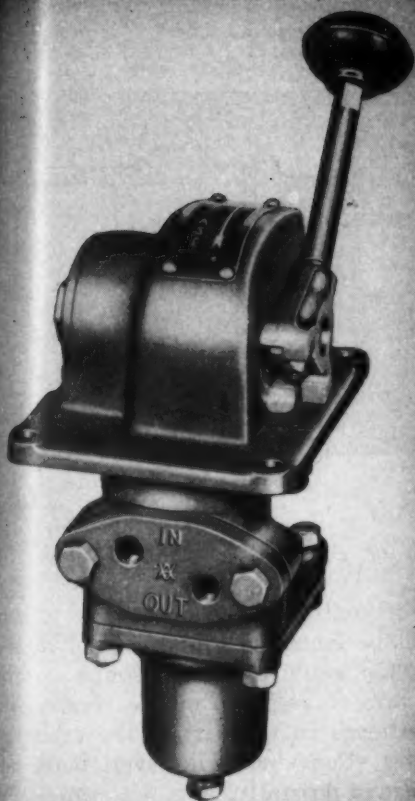

Fig. 20—Left—External and diagrammatic view of a pressure-control valve. Pressure varies according to the handle setting
Another entirely different functional principle from the on-and-off valve is offered by the pressure-control valve, *Fig. 20*. The handle position on this valve determines the pressure output. Each handle position corresponds to a particular delivery pressure so that, for instance, the quadrant of handle movement might be calibrated from 0 to 100 psi. For any particular handle position the valve will not only deliver the corresponding pressure for that position but it will deliver additional air or exhaust air from the line so as to maintain that pressure so long as the handle remains in the same location.
6. The uniform release feature is a true pressure control type reducing valve, in the sense that it can vent exhaust pressures as well as hold pressure up to a desired value. It provides a constant low return force on the cylinder pistons, in lieu of a changing force common to a spring as it is compressed. One valve will serve several cylinders. Physically it is like the regulating portion of the pressure control valve shown in Fig. 20.